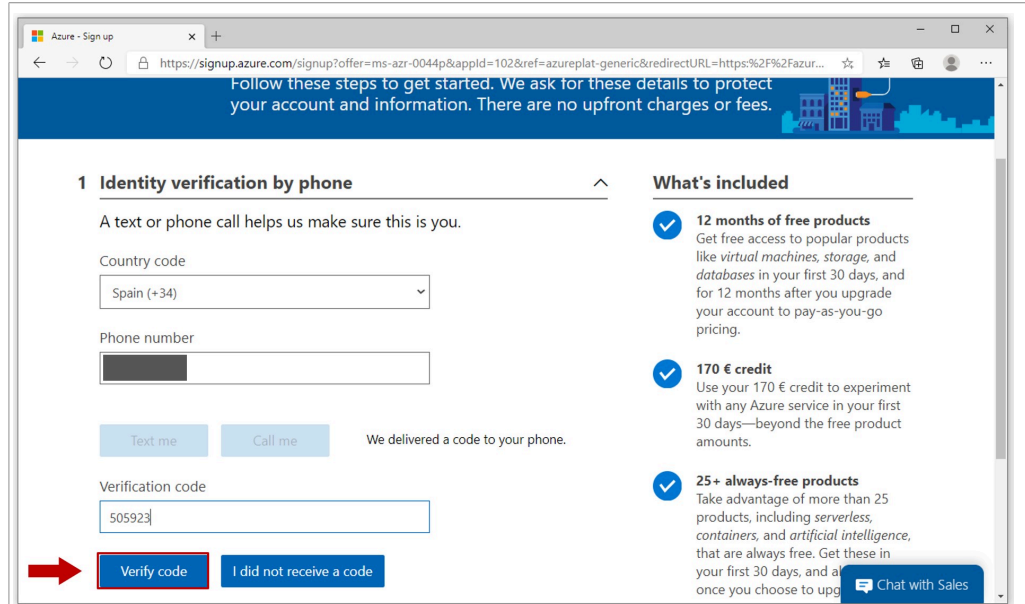

Figure 40. Azure free account sign up
- 2. If you already have an account with MicrosoftOffice 365, you will be prompted to log in. When you log in, you will be asked to perform an identity validation using your mobile phone as shown in Figure 40: